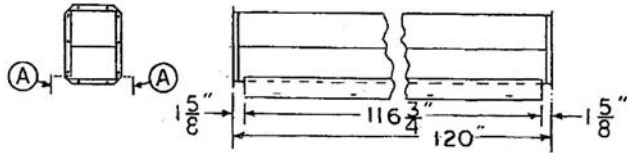

FIG. 12
1. If your 10' trunk sections (solid or bolt-on cover types) do not have the mounting plates (A) (4" x 116-3/4" long) attached, see Fig. 12.
2. Weld mounting plates to side of trunk sections with 1/8" fillet weld (1-1/2" long) centered on every eight inches. Bottom of trunk section should be welded the same way with welds centered in between welds on sides. **NOTE: Location of mounting plates in Fig. 12** Keep mounting plates (with holes down) 3-1/2" below bottom of trunk sections and centered between end flanges. Paint welds with a good grade of exterior type paint.